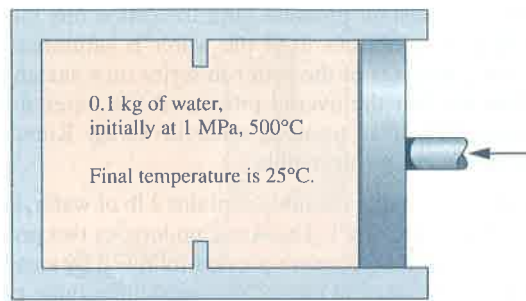

Fig. P3.76
3.76 As shown in Fig. P3.76, a piston-cylinder assembly fitted with stops contains 0.1 kg of water, initially at 1 MPa , 500°C . The water undergoes two processes in series: